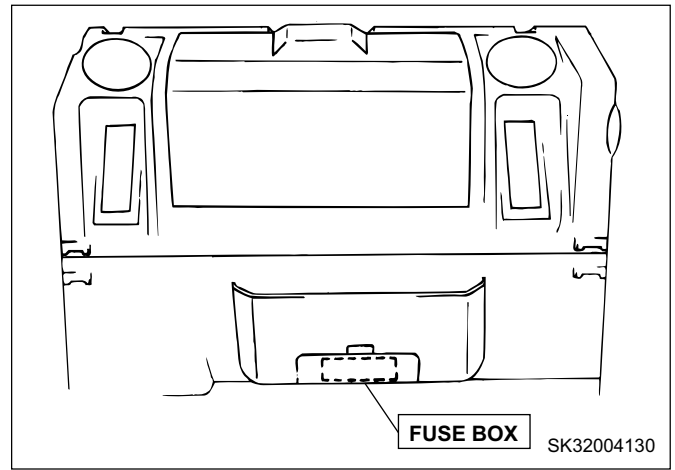

**FIGURE 4.58C**
1. Open engine air cleaner access door to locate washer fluid reservoir. See Figure 4.58C.